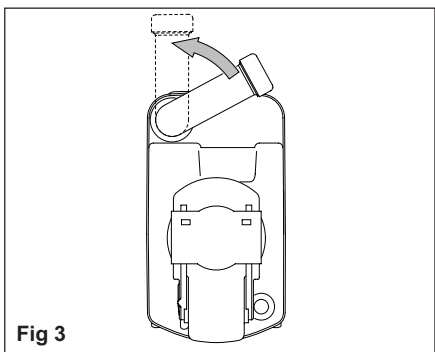

Fig 3
4. Place the cassette tank in an upright position and turn the pour out spout upwards by approximately 90 deg (fig 3).